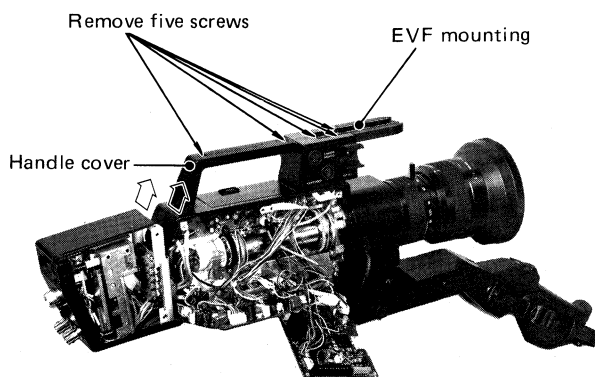

Fig. 3-2-1
- Remove two screws holding the handle cover and three screws holding EVF mounting on the upper cover. And remove the handle cover by pulling it upward and EVF mounting. (Fig. 3-2-1)